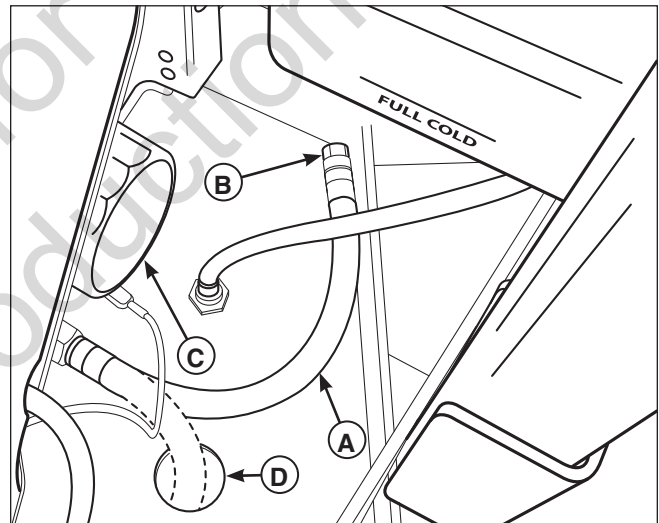

Figure 14. Engine Oil Drain
2. Place the oil drain hose (A, Figure 14) down through the hole (D) in the engine deck.
3. Place a small pan under the oil drain hose to catch the oil. Using the appropriate tools, remove the cap (B) from the drain hose and drain the engine oil into the pan.